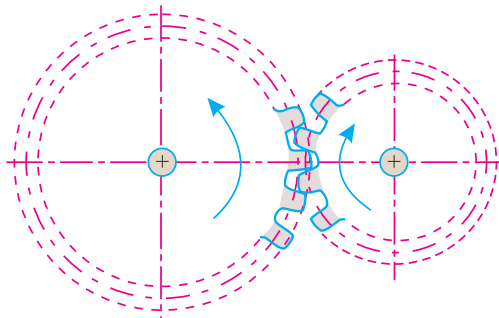

Fig. 34.3. External gearing.
1. **External gears.** Sometimes, the gears of the two shafts mesh externally with each other as shown in Fig. 34.3.
Such a type of gear is called *external gearing*. The larger of these two wheels is called *spur wheel* and the smaller one is called *pinion*. In an external gearing, the motion of the two wheels is always unlike, as shown in Fig. 34.3.